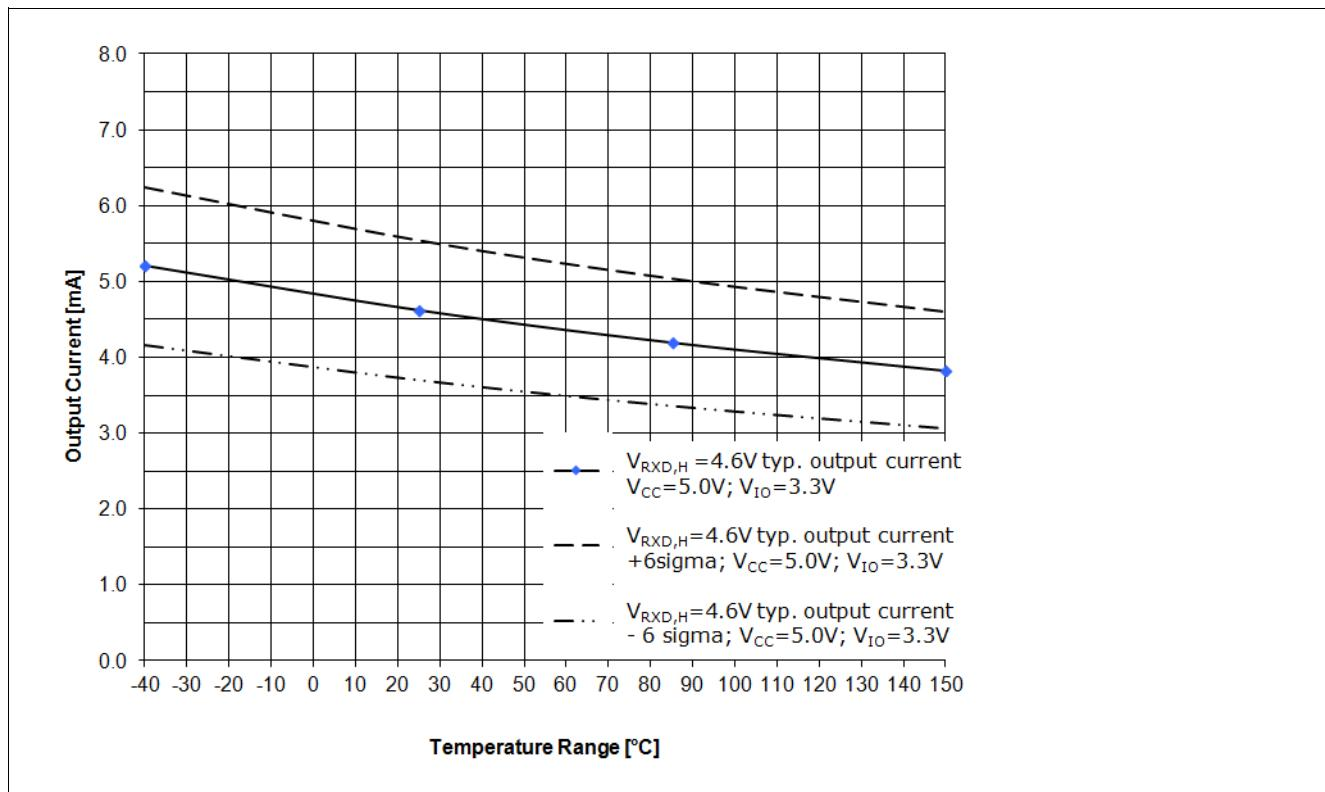

Figure 12 RxD Output driver capability for a logical “High” signal  $V_{RXD,H}=4.6\text{ V}$ ,  $V_{CC}=5.0\text{ V}$ ,  $V_{IO}=3.3\text{ V}$ 1)
The diagram in Figure 11 shows the output current capability of the RxD output pin depended on the chip temperature  $T_J$  at a  $V_{IO}$  power supply of 5.0 V. Figure 12 shows the output current capability of the RxD output pin at a  $V_{IO}$  power supply of 3.3 V.
- The curve “VRxD,H = 4.6 V; typ. output current; VCC = 5.0 V; VIO =3.3 V;” displays the typical output current at the RxD output pin of the TLE8250GVIO (see Figure 12).
- The curve “VRxD,H = 4.6 V; typ. output current + 6 sigma; VCC = 5.0 V; VIO =3.3 V;” displays the expected maximum value of the output current at the RxD output pin (see Figure 12).
- The curve “VRxD,H = 4.6 V; typ. output current - 6 sigma; VCC = 5.0 V; VIO =3.3 V;” displays the expected minimum value of the output current at the RxD output pin (see Figure 12).